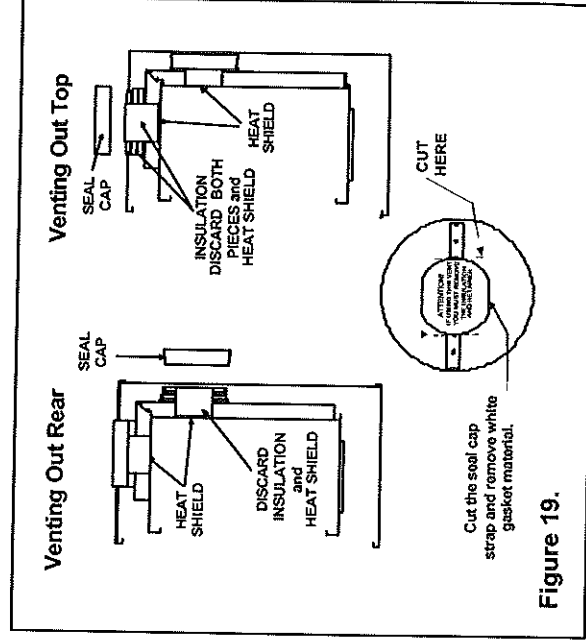

Figure 19.
Remove the installed rear seal cap from the rear starting collars by cutting the strap at each end. (see Figure 19). Follow the vent configuration tables accordingly.
**! WARNING: THE TOP HEAT SHIELD (INSIDE THE FIREBOX) MUST REMAIN ATTACHED IF THE VENT SYSTEM IS ATTACHED TO THE REAR STARTING COLLARS. SEE FIGURE 19.**
Remove the two screws in the top vent collar seal cap and remove the top vent collar seal cap and two pieces of insulation inside the top two starting collars (See Figure 19).